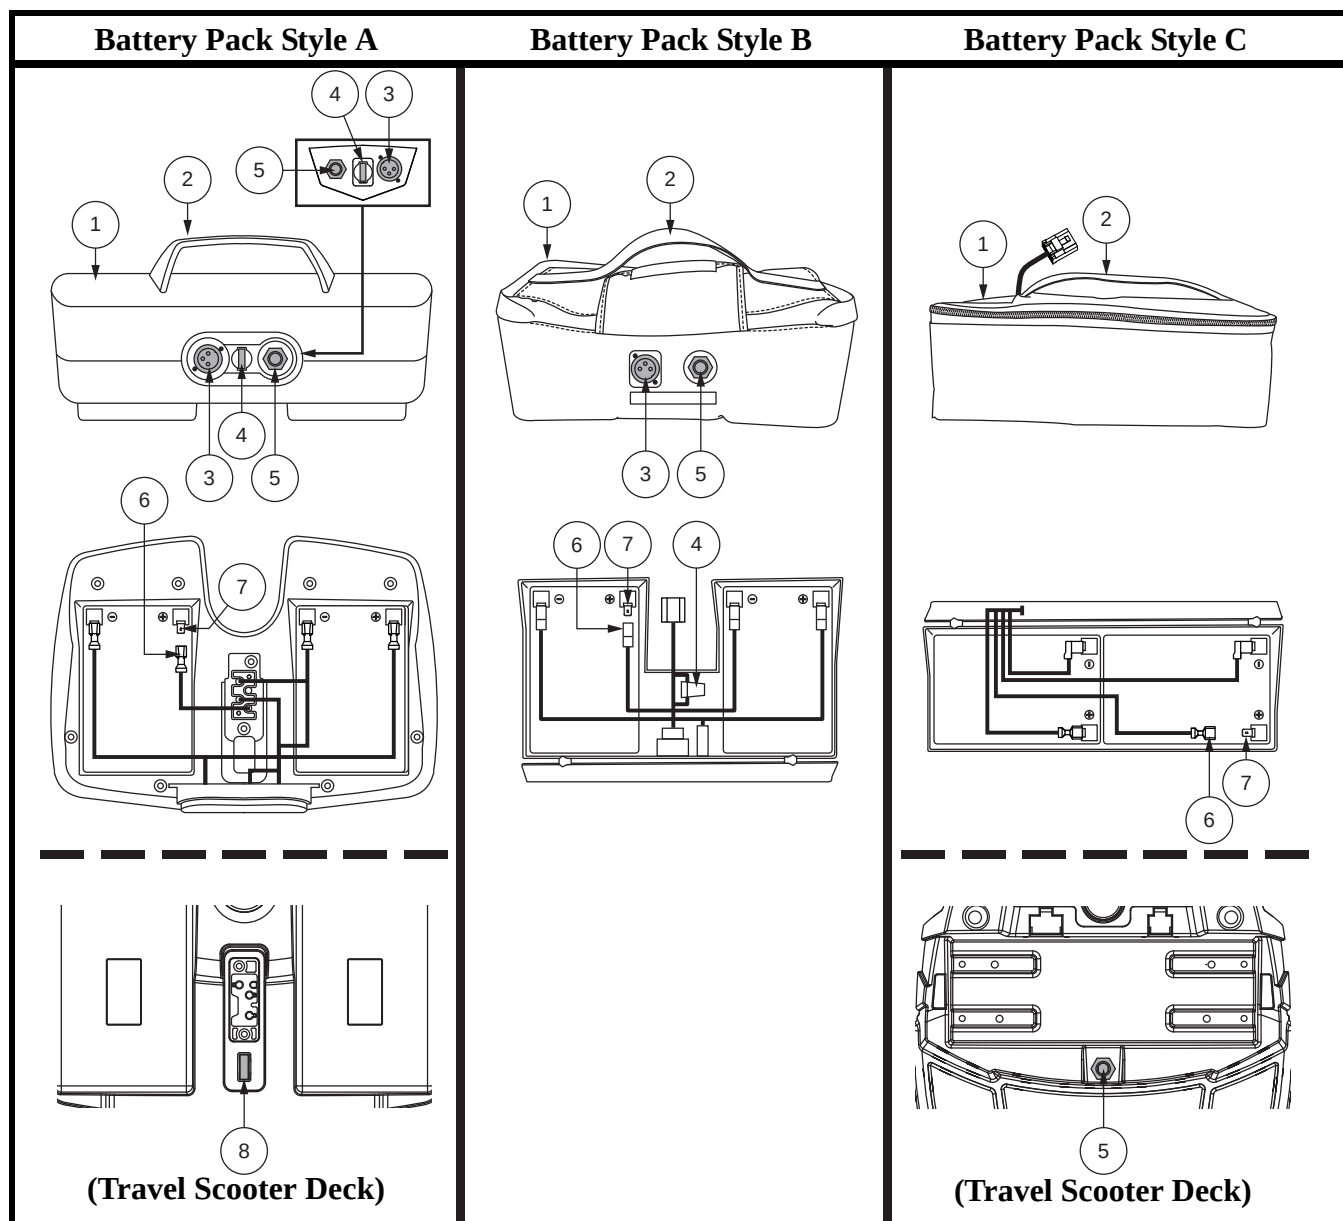

Figure 6. Battery Pack
When the voltage in your Travel Scooter's batteries becomes low or the Travel Scooter is heavily strained because of excessive loads or steep inclines, the main circuit breaker may trip to protect the motor and electronics from damage. **See figure 6.**
Your Travel Scooter is equipped with an innovative, easy-to-remove battery pack. A handle on the top of the battery pack makes it easy to lift the pack off of the Travel Scooter with one hand. The battery pack contains two rechargeable batteries, and may contain the charger power cord receptacle, the main circuit breaker (reset button), and the battery pack fuse. See **figure 6**.
The fuse located under the battery pack protects the tiller console electronics. See figure 6. In the event any component of the tiller console is not responding, check this fuse. See VII. “Basic Troubleshooting” for fuse replacement instructions.
- Ensure that the fuse on the battery pack is in working condition. **See figure 6 or 7.**